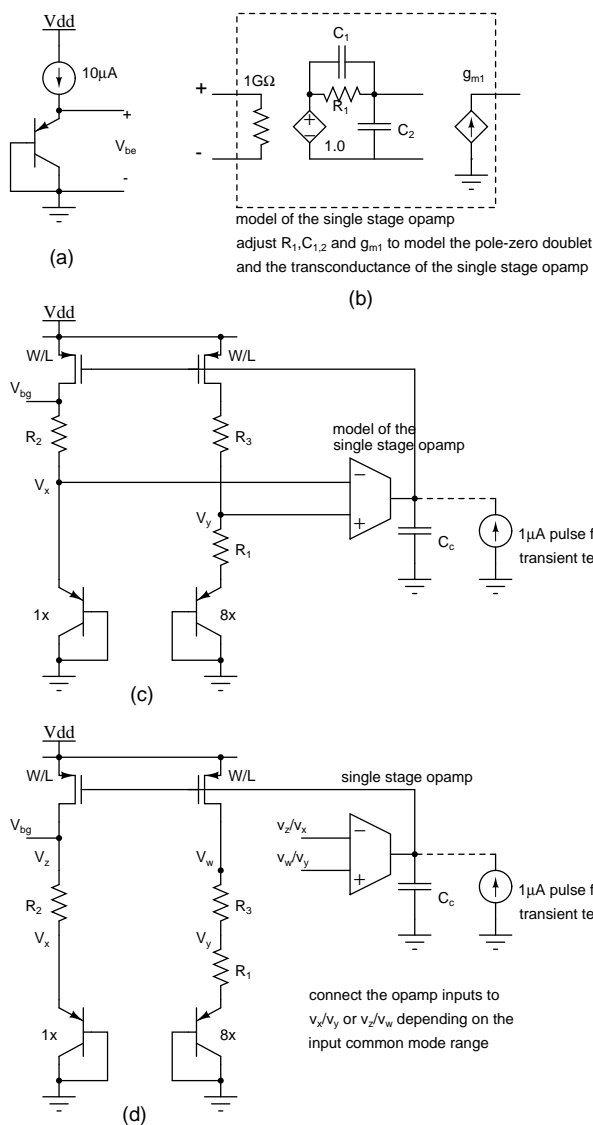

Figure 6: Bandgap reference
- Bandgap reference:** Bias a 1x sized diode connected PNP² at $10 \mu\text{A}$ as shown in Fig. 6(a) and sweep the temperature from 0 to 100°C . Determine dV_{BE}/dT at 27°C .
Design the bandgap shown in Fig. 6(c). Choose R_1 for a quiescent current of $10 \mu\text{A}$ and R_2 to get zero temperature coefficient at V_{bg} . Choose $R_3 = R_2$. What is the role of R_3 ? Simulate the bandgap reference with the model of a single stage opamp designed in the previous assignment (Fig. 6(b)-model the g_m , and the pole zero doublet). Choose C_c for ringing $\leq 10\%$. Test the bandgap reference by sweeping the temperature from 0 to 100°C and plot V_{bg} . Test the transient response by applying a $1 \mu\text{A}$
Modify the circuit as in Fig. 6(d). How should V_x , V_y , and V_{bg} change? What is the purpose of this modification? Resimulate with the opamp model as before and test the temperature sensitivity, transient response and the loop gain.